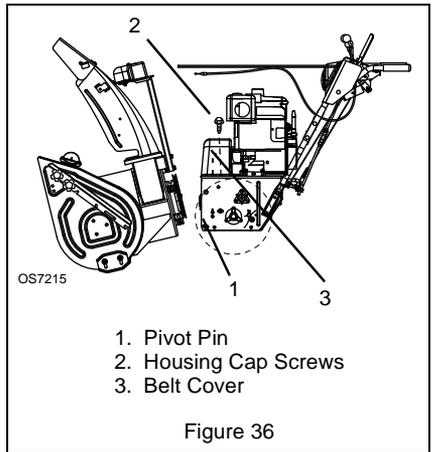

Figure 36
(Figure 36)
9. Remove hex bolts securing housing to frame (three on each side). Tip housing and frame apart on pivot pins (Figure 36).